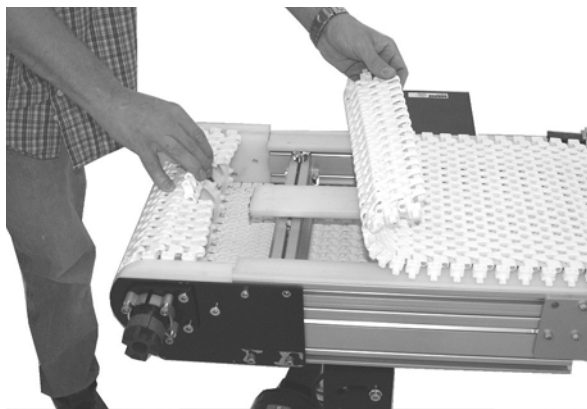

Figure 16
6. Bring the ends of the belt together (Figure 16).